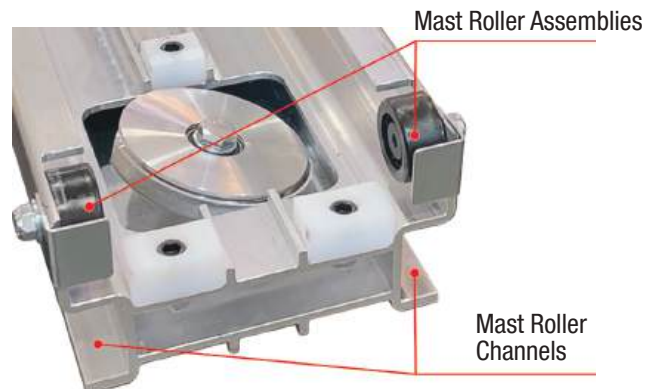

Figure 4-18: Mast Roller Assemblies and Mast Roller Channels
26. Re-install the carriage section to the front mast assembly. Align the roller assemblies on each side at the top of carriage section with the roller channels at the bottom of the front mast assembly (see Figure 4-18).